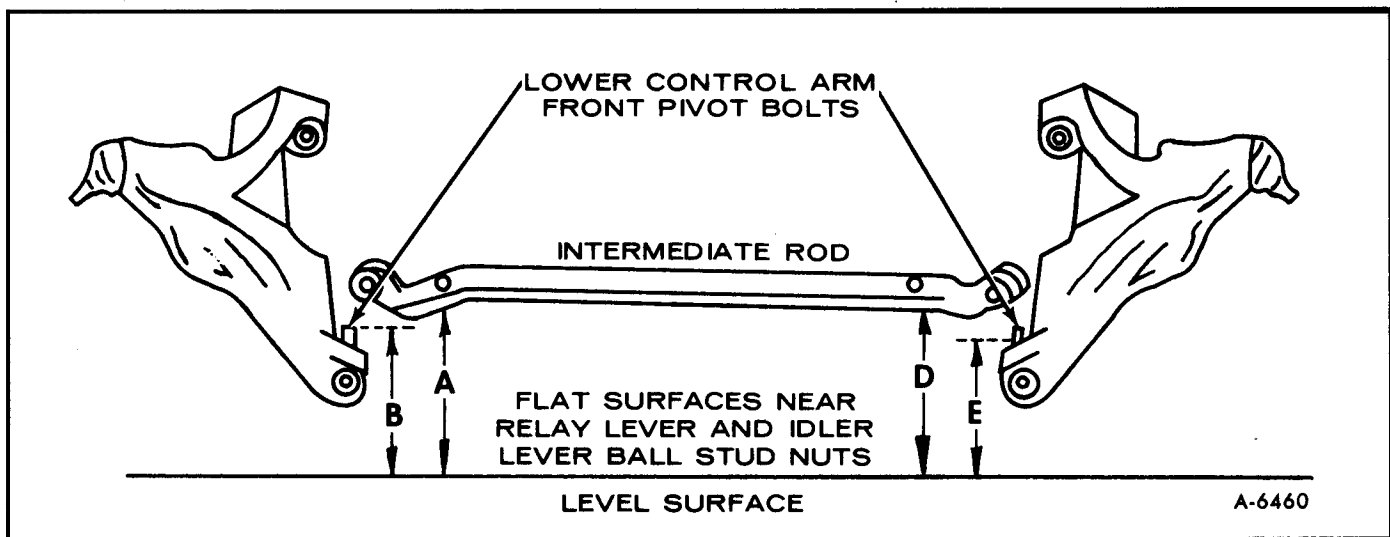

Figure 1—Measuring Intermediate Rod Parallelism
11. Inspect the intermediate rod for parallelism with the front axle to eliminate the possibility of front tires wearing unevenly. The parallelism can be measured and corrected as follows (see figure 1):